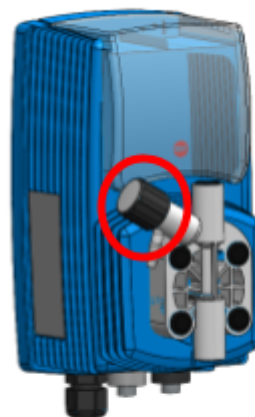

Figure 79.
- Bleeding: Turn the bleed valve (see Figure 79) on the pump head to the open position.